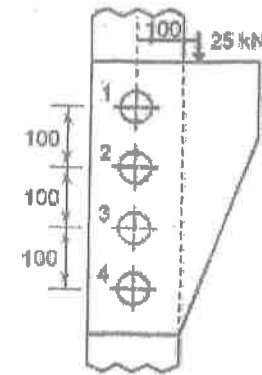

Fig. 5(d)
- (d) A bracket, attached to a vertical column by means of four identical rivets, is subjected to an eccentric force of 25 kN as shown in Fig. 5(d). Determine the diameter of rivets, if the permissible shear stress is 60 N/mm².